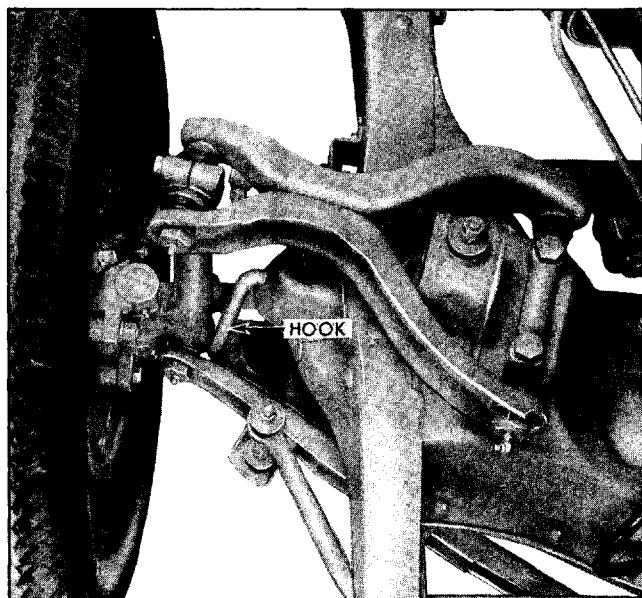

Fig. 9-29 Hold Down Hook J-5571 Installed
1. Hook front suspension in five passenger load position using tool J-5571 front suspension hold down hook (Fig. 9-29).